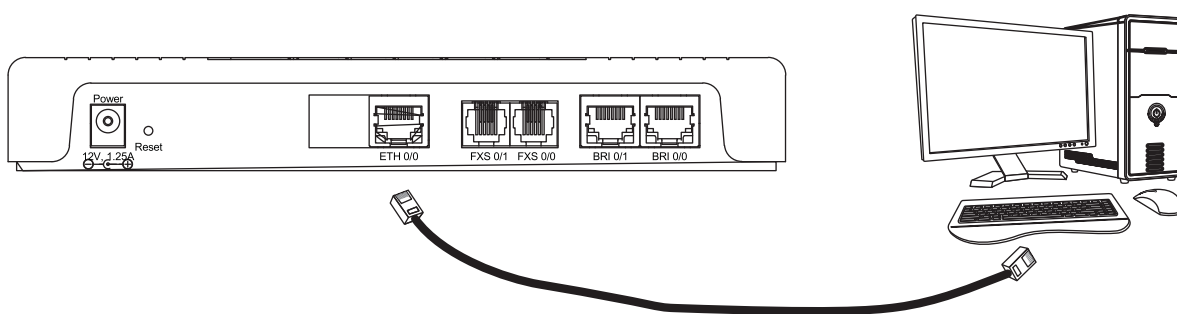

Figure 13. Connecting the SmartNode to a laptop PC
- The SmartNode device is connected to a laptop PC (see figure 13) that is configured with a fixed IP in the same range as the SmartNode device's IP address (for instance: PC's IP address; 192.168.1.10; mask: 255.255.255.0).